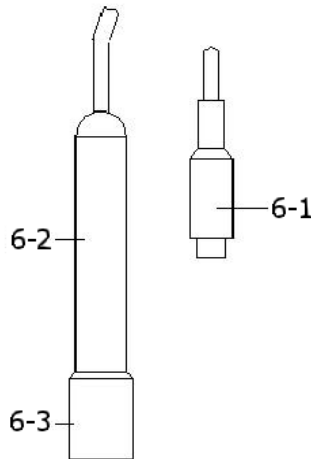

Fig. 3
- 1) Prepare the Conductivity Probe ( optional, CDPB-03 ), install the " Probe Plug " ( 6-1, Fig. 3 ) into the " CD Socket " ( 3-15, Fig. 1 ).
- 3) Hold the " Probe Handle " ( 6-2, Fig. 3 ) by hand and let the " Sensing head " ( 6-3, Fig. 3 ) immersed wholly into the measured solution. Shake the probe to let the probe's internal air bubble drift out from the sensing head.
- 2) Install the " Probe Plug " ( 6-1, Fig. 3 ) into the " CD Socket " ( 3-15, Fig. 1 ).
- 4) Hold the " Probe Handle " ( 6-2, Fig. 3 ) by hand and let the " Sensing head " ( 6-3, Fig. 3 ) immersed wholly into the measured solution. Shake the probe to let the probe's internal air bubble drift out from the sensing head.